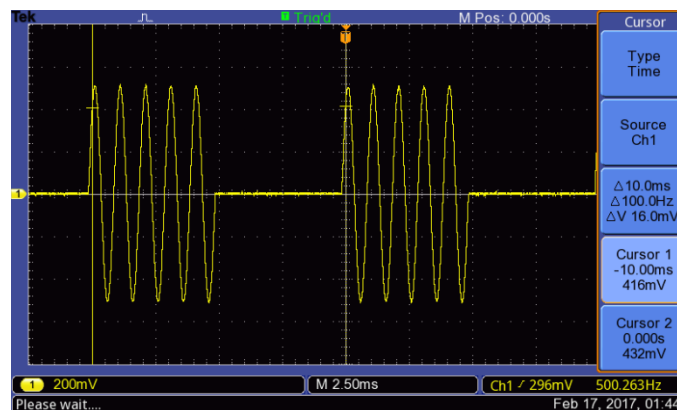

Figure 6: 5 complete cycles of a 1kHz sine wave every 10ms (100Hz).
6. You should now see 5 complete cycles bursting every 10 ms. See Figure 6.